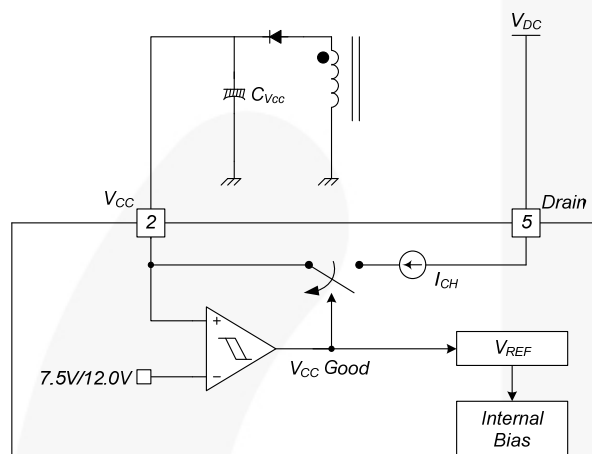

Figure 17. Startup Block
1. Startup: At startup, an internal high-voltage current source supplies the internal bias and charges the external capacitor (C_{VCC}) connected to the V_{CC} pin, as illustrated in Figure 17. When V_{CC} reaches 12V, the FSL146MRBN begins switching and the internal high-voltage current source is disabled. The FSL146MRBN continues normal switching operation and the power is supplied from the auxiliary transformer winding unless V_{CC} goes below the stop voltage of 7.5V.